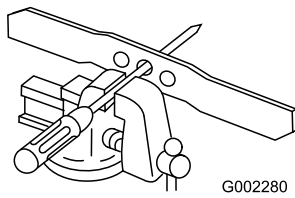

Figure 36
1. Check the balance of the blade by placing the center hole of the blade over a nail or a screwdriver shank clamped horizontally in a vise (Figure 36).